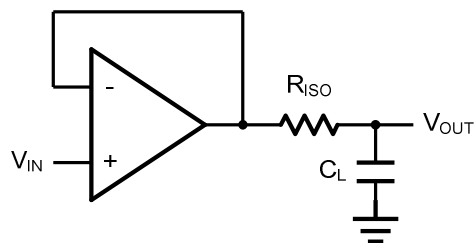
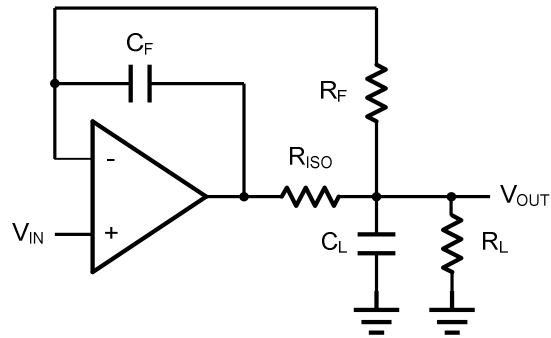

Figure 2. Indirectly Driving a Capacitive Load Using Isolation Resistor
Figure 3. Indirectly Driving a Capacitive Load with DC Accuracy
The HG855x family is optimized for bandwidth and speed, not for driving capacitive loads. Output capacitance will create a pole in the amplifier's feedback path, leading to excessive peaking and potential oscillation. If dealing with load capacitance is a requirement of the application, the two strategies to consider are (1) using a small resistor in series with the amplifier's output and the load capacitance and (2) reducing the bandwidth of the amplifier's feedback loop by increasing the overall noise gain. Figure 2. shows a unity gain follower using the series resistor strategy. The resistor isolates the output from the capacitance and, more importantly, creates a zero in the feedback path that compensates for the pole created by the output capacitance.
The circuit in Figure 3 is an improvement to the one in Figure 2. R_{F} provides the DC accuracy by feed-forward the V_{IN} to R_{L} . C_{F}